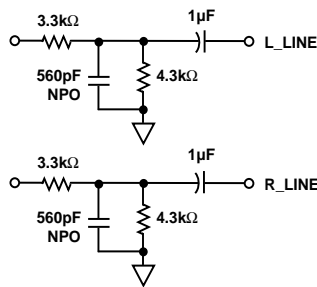
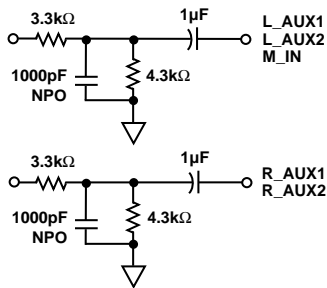

Figure 25. 2 V rms Line-Level Input Circuit for LINE Inputs
Figure 26. 2 V rms Line-Level Input Circuit for M_IN and AUX Inputs
The AD1845 Stereo Codec has been designed to require a minimum of external circuitry. The recommended circuits are shown in Figures 25 through 33.
A circuit for 2 V rms mono, line-level inputs and auxiliaries is shown in Figure 25 and Figure 26. Note that this is a divide-by-two resistive dividers considering the codec input impedance. The input resistor and 560 pF (1000 pF) capacitor provides the single-pole of antialias filtering required for the ADCs. If line-level inputs are already at the 1 V rms levels expected by the AD1845, the resistors in parallel with the 560 pF (1000 pF) capacitors can be omitted. If the application does not route the AUX2 inputs to the ADCs, then no antialias filtering is required (only the 1 μF ac coupling capacitor).
2. The AD1845 requires the input antialiasing filters for the ADCs (refer to Figures 25 and 26). The CS4231 can use the same filters with no degradation in performance. For compatibility it is suggested that the filters be added.